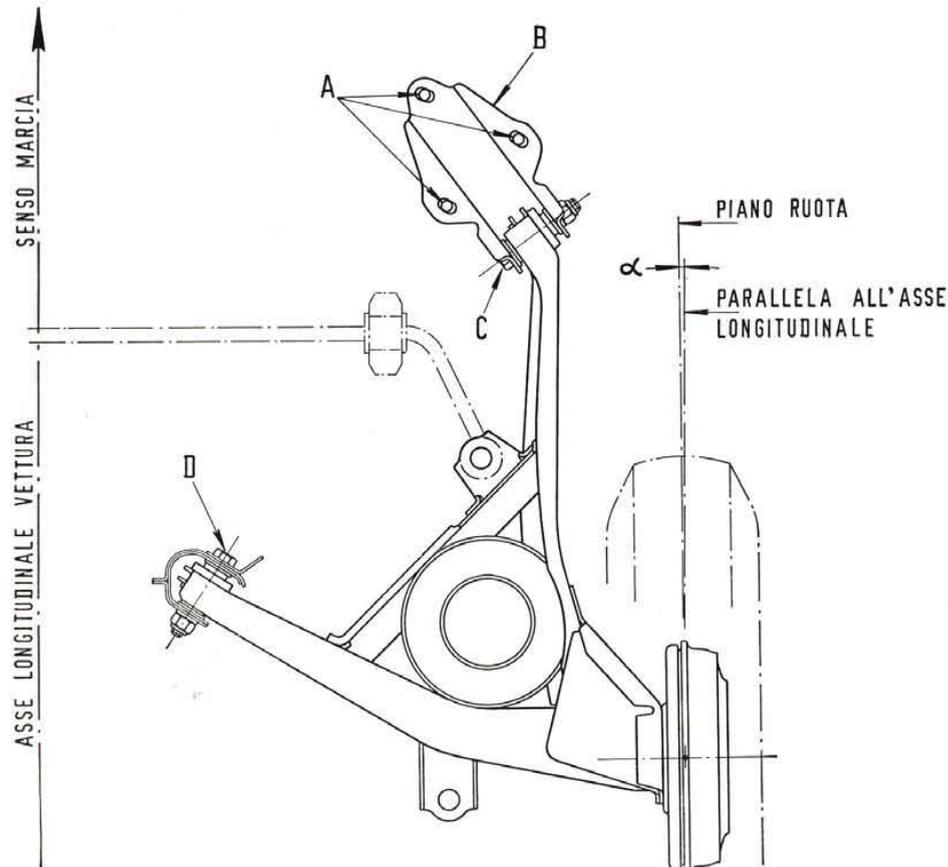

Fig. 263.
- toed-in by an angle ( $\alpha$ , fig. 263) of  $0^{\circ} 12' \pm 6'$  to the parallel to the car centerline;
To adjust toe-in angle ( $\alpha$ , fig. 263) use the clearance which is left between holes and screws (A, fig. 263) securing bracket (B) to body.
— to correct toe-in angle, as outlined earlier, work on clearance between holes and screws (A, fig. 263) securing bracket B to body;
— next tighten screws «A» to 28.9 to 36.2 ft.lbs (4 to 5 kgm) of torque, and draw up nuts C and D (fig. 263) with 65.1 ft.lbs (9 kgm) of torque;